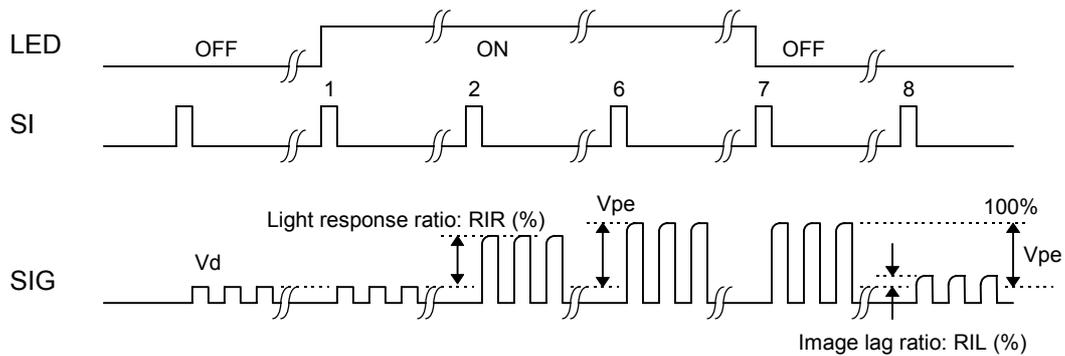

Figure 4
- RIL: Average of image lag ratios of all pixels (see Figure 4)
- RIR: Average of light response ratios of all pixels (see Figure 4)